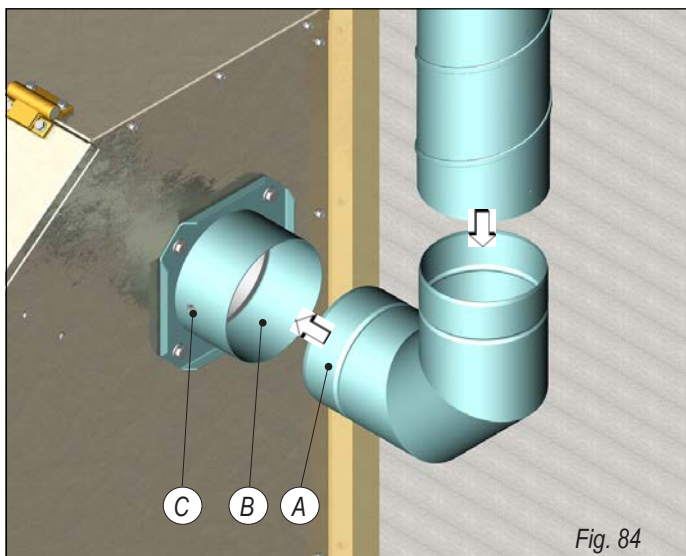
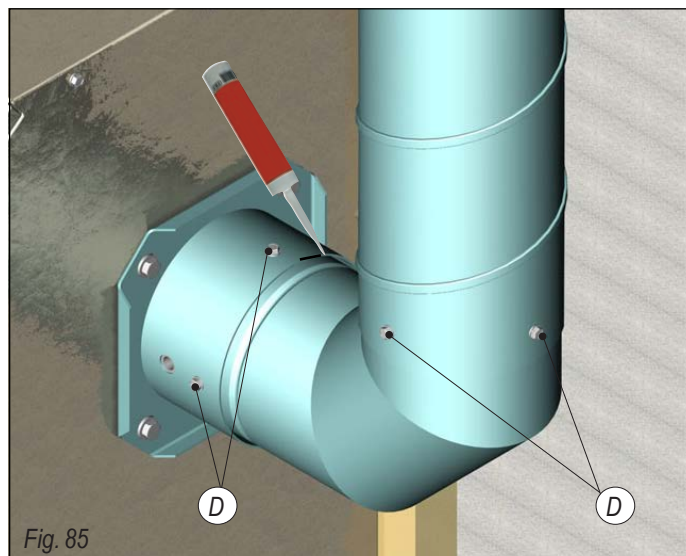

Fig. 84
Fig. 85
Insert the elbow (A) on the exhaust gas duct connection of the generator (B) until the combustion test tap nut (C), see fig. 84. Seal the elbow on the exhaust gas duct connection of the generator and all the other connections with silicone. Fasten all the connections with 4 self-drilling screws (D), see fig. 85.